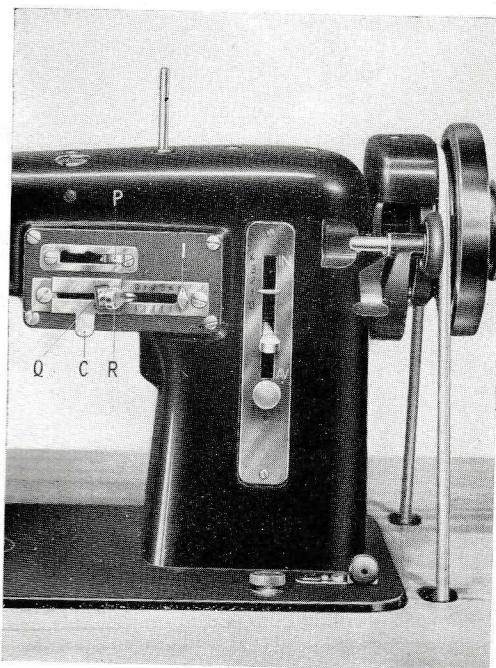

Fig. 27
be used and must be assembled under the regulating button of the zig zag regulating index, as shown in fig. 27.
hole go into the pivot of the needle plate (fig. 27) and start sewing turning the stuff slightly in the direction of the hands of the watch.
1) a special plate C to be placed under the drive button of the zig zag regulator index (see fig. 27),
Before starting fit the machine as follows: Put lever P quite to the right as in fig. 27 and index I in such a